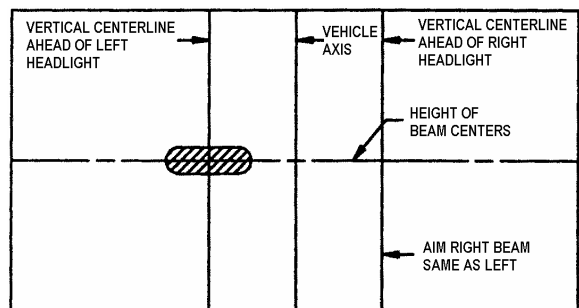

FIGURE 35: HIGH-INTENSITY ZONE (SHADED AREA) OF A PROPERLY AIMED UPPER BEAM ON THE AIMING SCREEN 7.6 M (25FT) IN FRONT OF VEHICLE 06503
5. High beam headlights are aimed so that the center of the high-intensity zone is located at the horizontal and straight ahead vertically (Fig. 35).